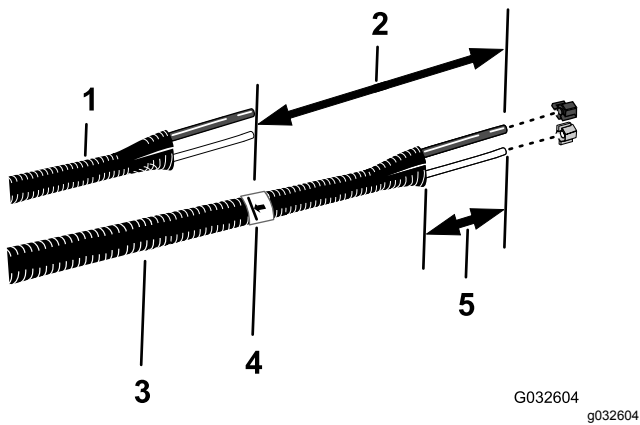

Figure 27
6. Align the old liquid and air tubes (Figure 27) to the new tube assembly (Toro Part No. 114-9553).
8. At the new tube assembly, add 26 cm (10 inches) length from the mark that you made in step 7, mark the tube assembly, and cut the tubes at the second (longer) mark (Figure 27).
10. Remove 77 to 102 mm (3 to 4 inches) of the sheathing from around each end of the tube assembly (Figure 27).